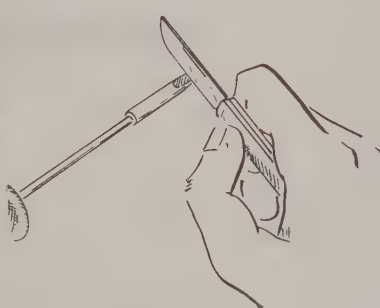

Figure 5
- Scrape the tip lightly with a knife blade held at a right angle to the tip. See Figure 5.